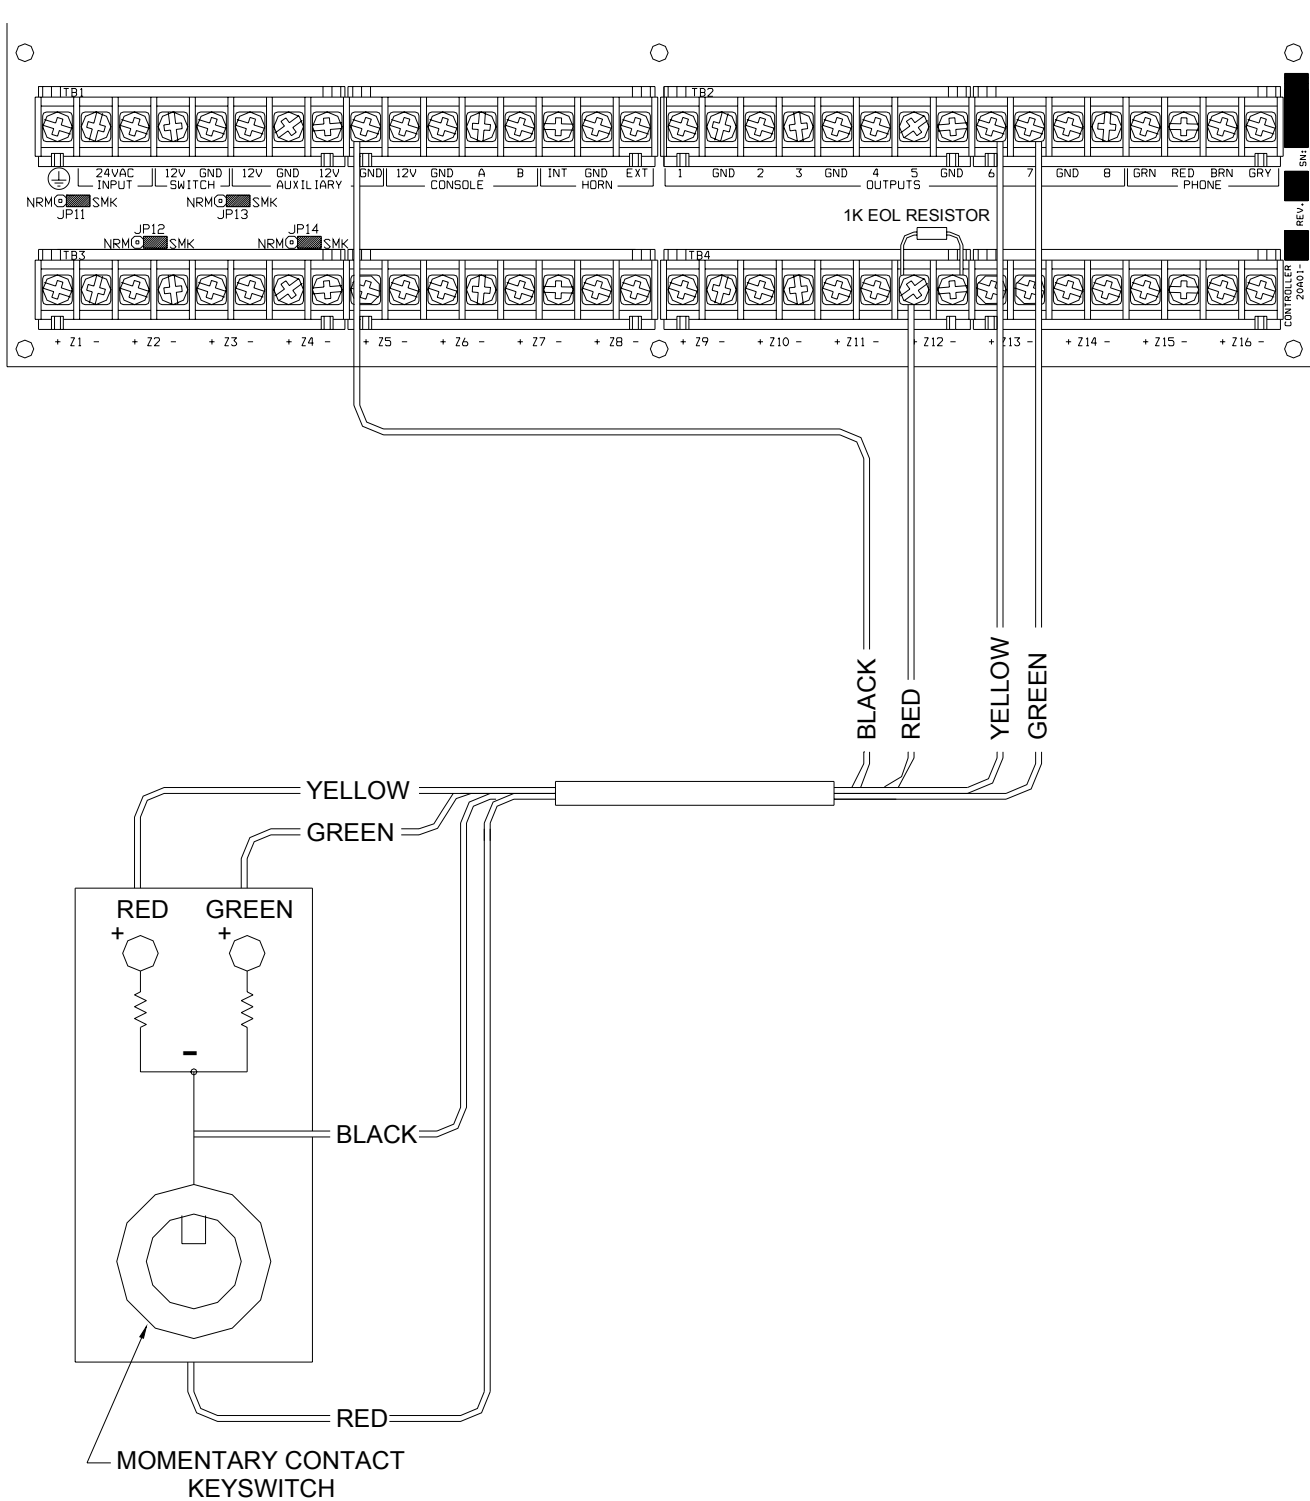

FIGURE 10 - REMOTE KEYSWITCH CONNECTIONS
4. Refer to **FIGURE 10 (REMOTE KEYSWITCH CONNECTION)** for this configuration.